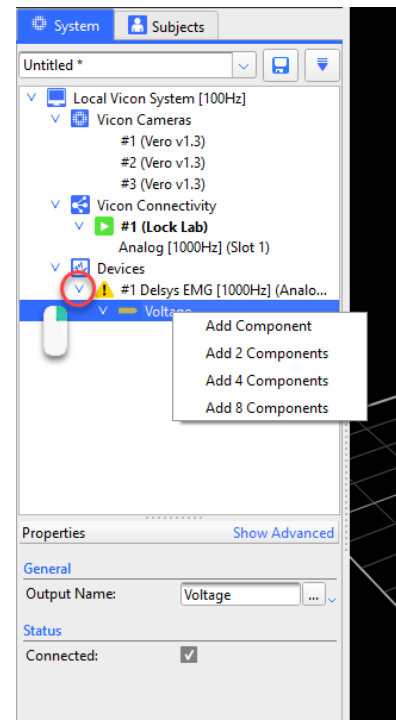

Figure 20: Adding in analog data channels in Vicon Nexus.
8. Select the carrot icon to open the Delsys EMG panel and right click on the *Voltage* tab to begin adding components (data channels; Figure 20).